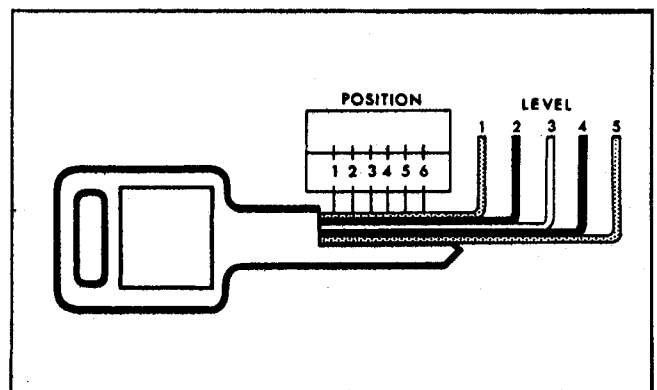

Fig. 0-14 Key Coding Diagram
1. Place the key on the silhouette in Fig. 0-14, aligning the key with the outline as accurately as possible.